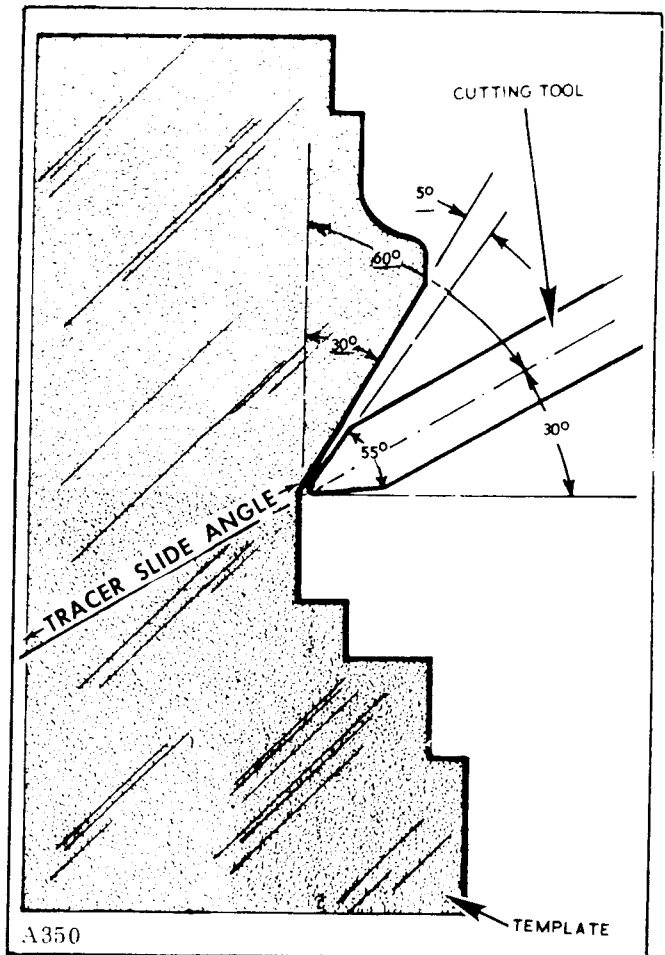

Figure 3-8. Positioning Cutting Tool and Tracer Slide Angle with Respect to the Smallest Included Angle of Template
b. Figure 3-8 shows the established angles for a typical work piece.